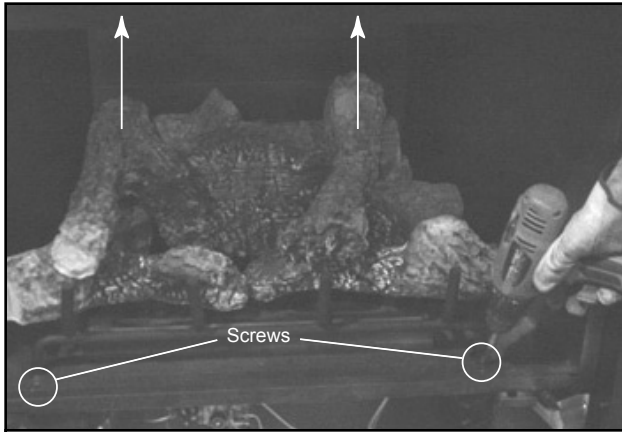

Figure 1.2 Loosen Grate
- Lift the two top logs off the log set. See Figure 1.2.
- Remove the grate/log assembly by removing two screws as shown in Figure 1.2. Lift and pull grate/log assembly from front of firebox.